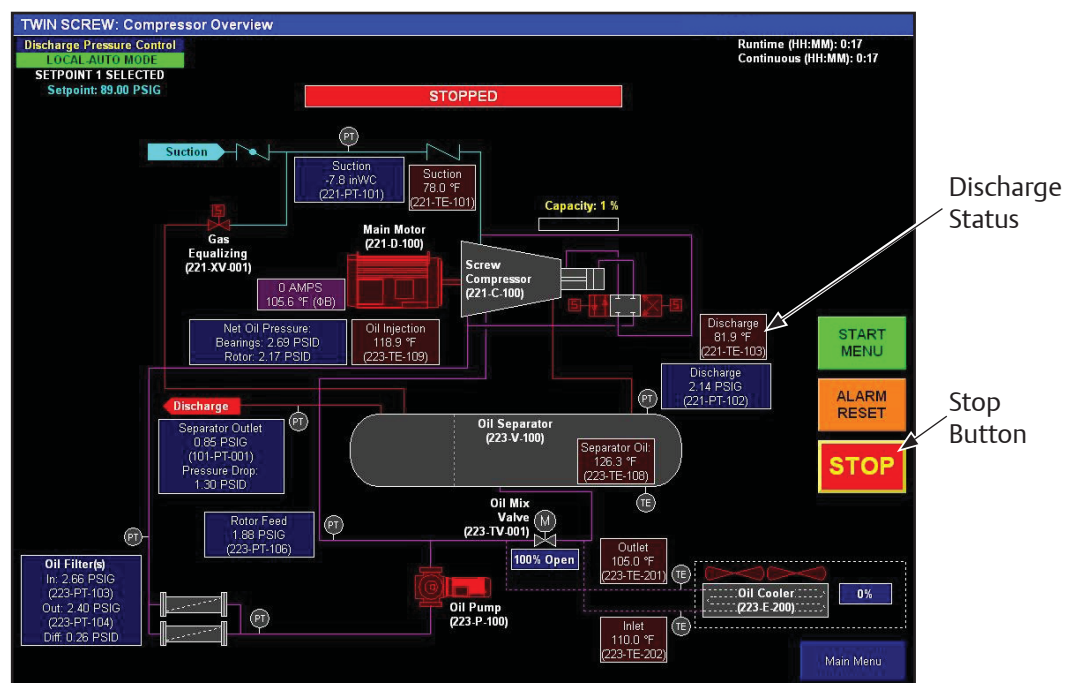

Figure 4-11. PLC Main Screen
2. Press “Stop” button to stop compressor unit, see Figure 4-11.